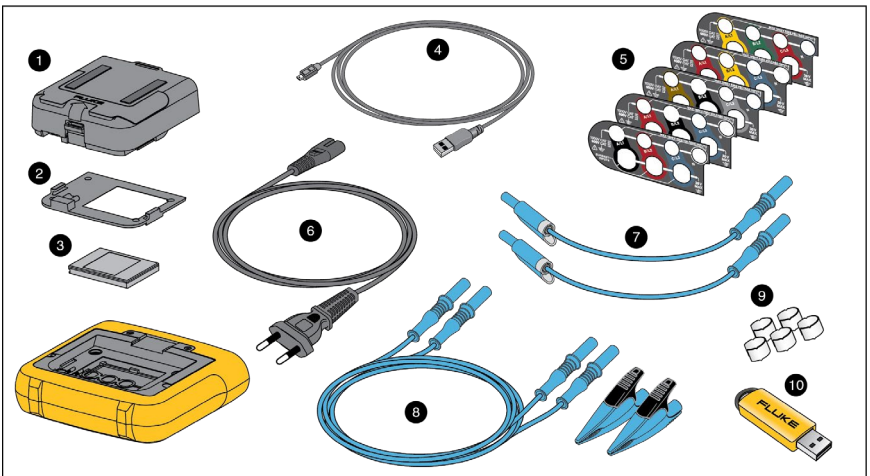

Figure 11. Replacement Parts
You must locate and connect an alternate power source to the instrument if the voltage to measure is $<100\text{ V}$ or $>500\text{ V}$. Use the set of 2 m test leads (item 8 in Figure 11) or the supplied power cord.
You must locate and connect an alternate power source to the instrument if the voltage to measure is <100 V or >500 V. Use the set of 2 m test leads (item 8 in Figure 11) or the supplied power cord.
On page 56, replace Figure 11, with: